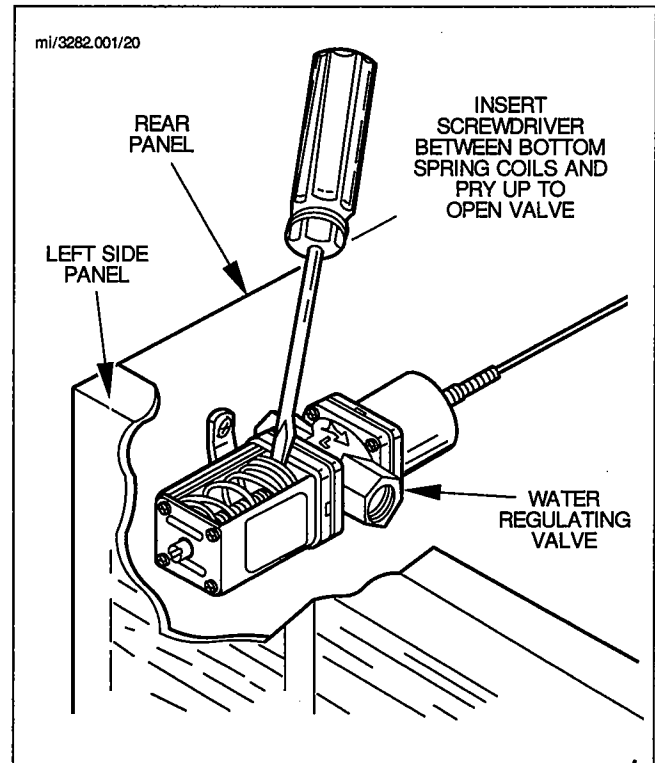

FIGURE 20. MANUALLY OPEN WATER REGULATING VALVE
3. Pry open water regulating valve by inserting large standard screwdriver between bottom spring coils of valve. Pry spring upward to open valve, Figure 20.